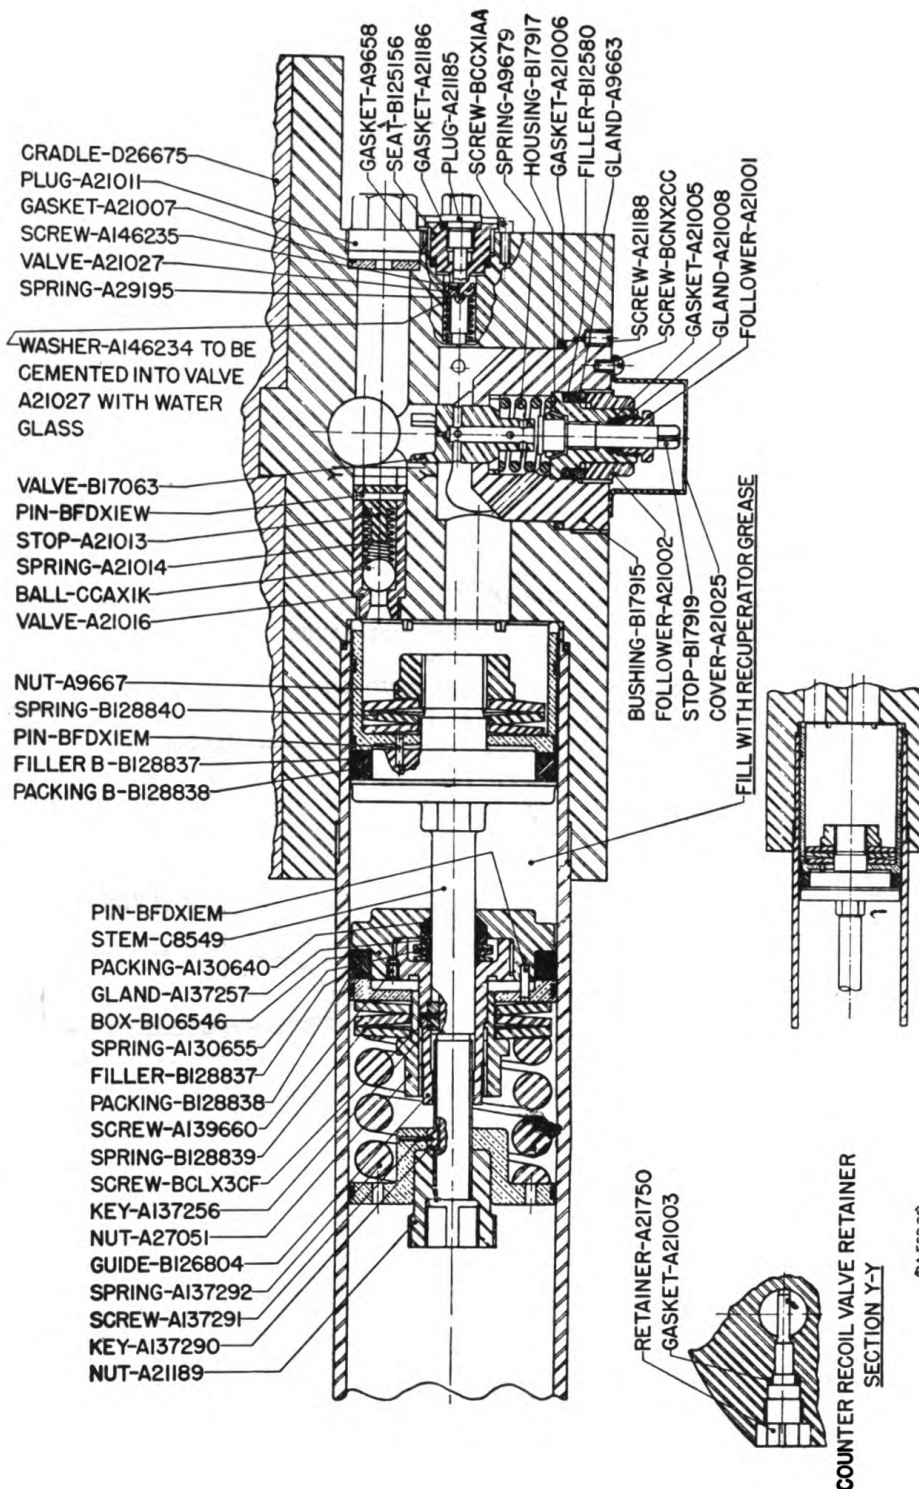

FIGURE 5.—Floating piston and throttling valve, assembly—sectioned views.
(3) When the cradle has been lowered to the ground, remove the left and right trunnion roller bearing housing as an assembly. Keep them free from dirt and grit. Wrap the cradle trunnion with burlap soaked in grease to prevent damage.
20. Excessive recoil.—*a.* If excessive recoil develops after a period of satisfactory performance, and a check of the gas pressure and oil supply indicates the prescribed amount, it may be assumed that either the counterrecoil valve, A21016 (fig. 5), or the recoil throttling valve, B17063, are not functioning correctly. The counterrecoil valve, A21016, may be removed and inspected for free movement of its ball, CCAX1K. Check by laying the gun at zero degrees elevation, drain the reserve oil, then remove the throttling valve recess plug, A21011,
b. Remove the plug, A21011 (fig. 5), from the cradle and allow the oil to drain out. Remove the plug, A21012 (fig. 7), from the cradle. Access to this plug is through a drilled hole in the left side frame of the top carriage near the trunnion bearing. The gun may be slightly elevated, not over 5° , to facilitate the draining. Care must be exercised that the gun is not elevated to a point where it will slide out of battery as the oil is drained, as some difficulty may be encountered in returning the gun to the in-battery position. Replace the plug, A21011, as soon as the oil stops flowing, being sure that the plug and its gasket are clean and free of dirt.
22. Recoil throttling valve.—a. The recoil throttling valve, B17063 (fig. 5), has been properly adjusted to permit a recoil of 31 to 32 inches when firing service weight charges at maximum elevation. The above setting will give a recoil of approximately $23\frac{1}{2}$ inches when firing service weight charges at zero degrees elevation. Any malfunction of this valve caused by improper setting, damaged parts,
c. To disassemble the recoil valve purge the reserve and drain the recoil oil from the recoil system and then remove the screws, BCNX2CC (fig. 5), and cover, A21025. Back out the follower, A21002, and withdraw the recoil valve assembly. Further disassembly may now be made to replace any defective parts. The procedure for additional disassembly may be determined by examination of the assembly.
(*e*) The complete buffer assembly and throttling valve cover, A21025 (fig. 5).